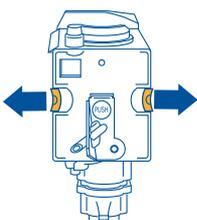

Fig.31
- carefully clean the inside of the machine. To remove the coffee stuck to the parts inside the machine, scrape it with a plastic or wooden fork (Fig. 30) and then pick up all the residues using a vacuum cleaner (Fig. 31);